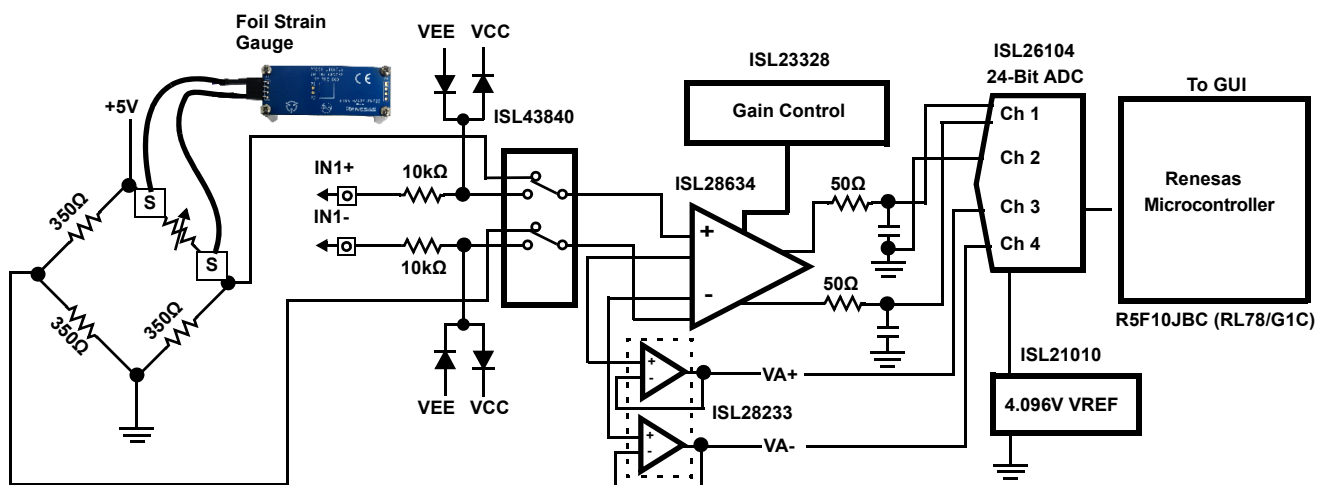
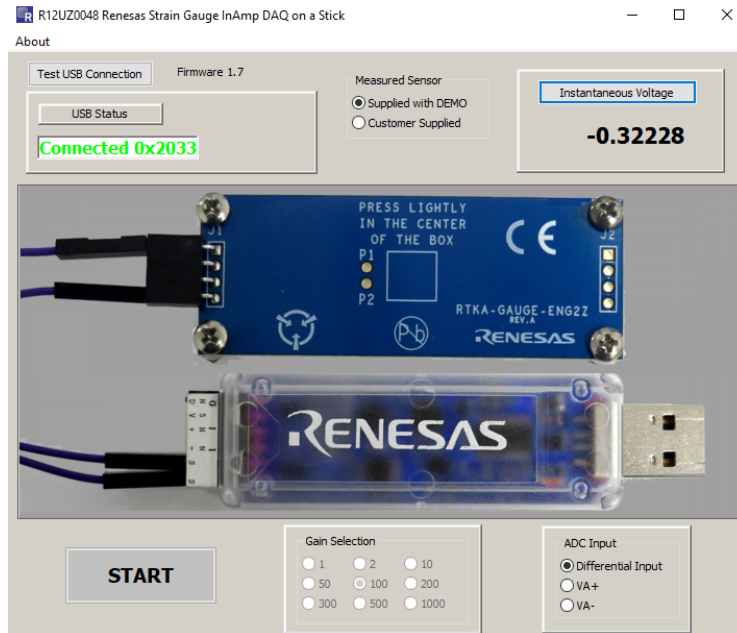
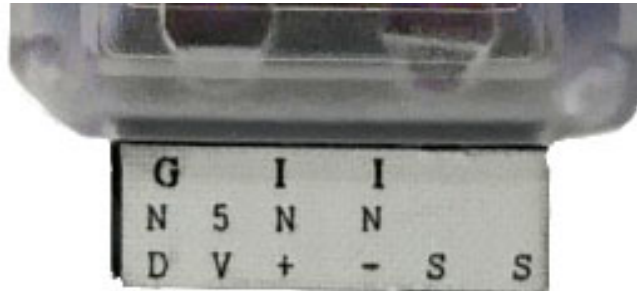
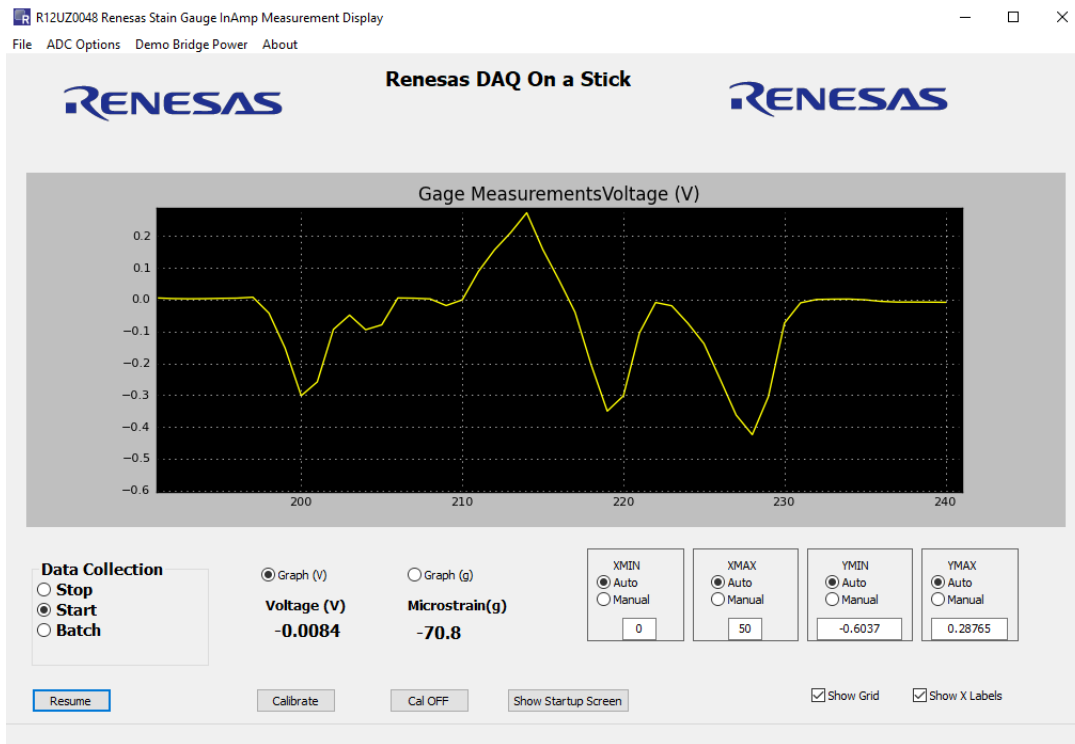

Figure 2. Simplified Strain Gauge Schematic
Figure 3. Startup Screen
Figure 5. Sensor Connector
Figure 6. Measurement Display Screen
Figure 2 shows a simplified schematic of the Strain Gauge design. The design uses the Renesas ISL28634 Programmable Instrumentation Amplifier (IN-Amp), ISL23328 Digital Potentiometer, ISL28233 Operational Amplifiers, ISL43840 dual 4-channel Mux configured as a Differential Mux, ISL21010 3.3V and 4.096V precision voltage references, ISL26104 24-Bit Delta Sigma Converter, and R5F10JBC (RL78/G1C) Microcontroller.
The Startup Screen (Figure 3 on page 4) allows you to perform the following configurations:
The Measurement Display Screen (Figure 6) allows you to perform the following functions:
1. After the software is installed and the Setup Screen in Figure 3 appears, plug the RTKA-BDGSTKEV1Z board into a USB port on the computer. The green LED on the RTKA-BDGSTKEV1Z turns on.
3. From the Startup Screen (Figure 3), click **Instantaneous Voltage** to get a single voltage reading, select the sensor input to measure, adjust the amplifier gain, or click **Start** to go to the Measurement Display screen shown in Figure 6 on page 8. The green LED on the board turns off.
The RTKA-BDGSTKEV1Z reference design gives you the option to measure the strain on an internal bridge with a foil gauge (supplied with the evaluation board) or connect an external sensor to monitor the voltage reading on the GUI screen. Select the **Supplied with DEMO** sensor or **Customer Supplied** sensor by clicking the appropriate radial button at the top of the Startup Screen shown in Figure 3. The **Supplied with the DEMO** sensor (foil gauge) is the default value in the software with a gain of 100V/V. Figure 5 shows the external connector inputs that connect the sensor to the circuit shown in Figure 2 on page 2.
2. Connect the opposite end of the wires to the far edges of the foil gauge board. See Figure 5.
1. Plug the wires into the IN+ and IN- ports shown in Figure 5.
The **Start** button at the bottom left of the Startup Screen loads the Measurement Display Screen shown in Figure 6 on page 8.
After clicking **Start** on the Startup Screen, the Measurement Display Screen appears (Figure 6).